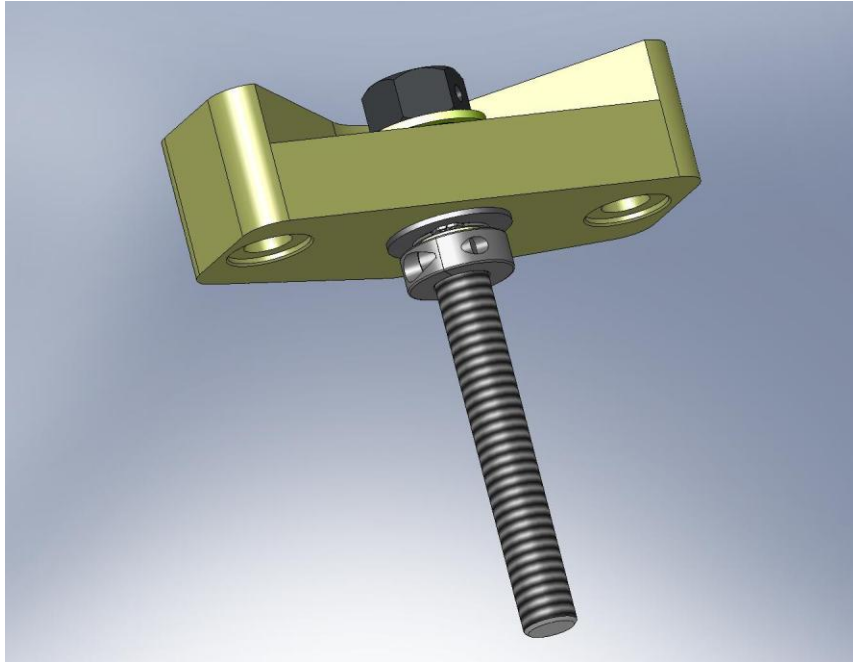

Figure 3.58. ACME Screw placed through the Conversion Bushing. The shaft collar locks the Screw to the Pull-Down Bar.
- Drop **ACME Screw** through top of **Conversion Bushing**, as shown in Figure 3.58. Slide shaft collar (McMaster-Carr #9633T15) over **Screw**, directly below the **Bushing**. Tighten the collar.